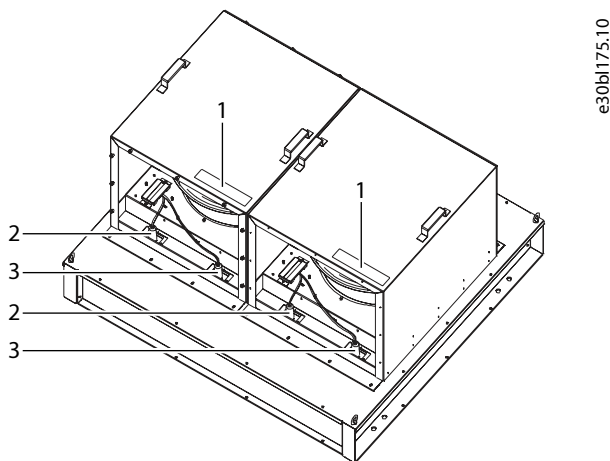

Figure 55: Quick Connector Locations
- o The fan location serial number is marked on a sticker on top of each fan assembly (for example, XXX-FAN21). See Figure 55.